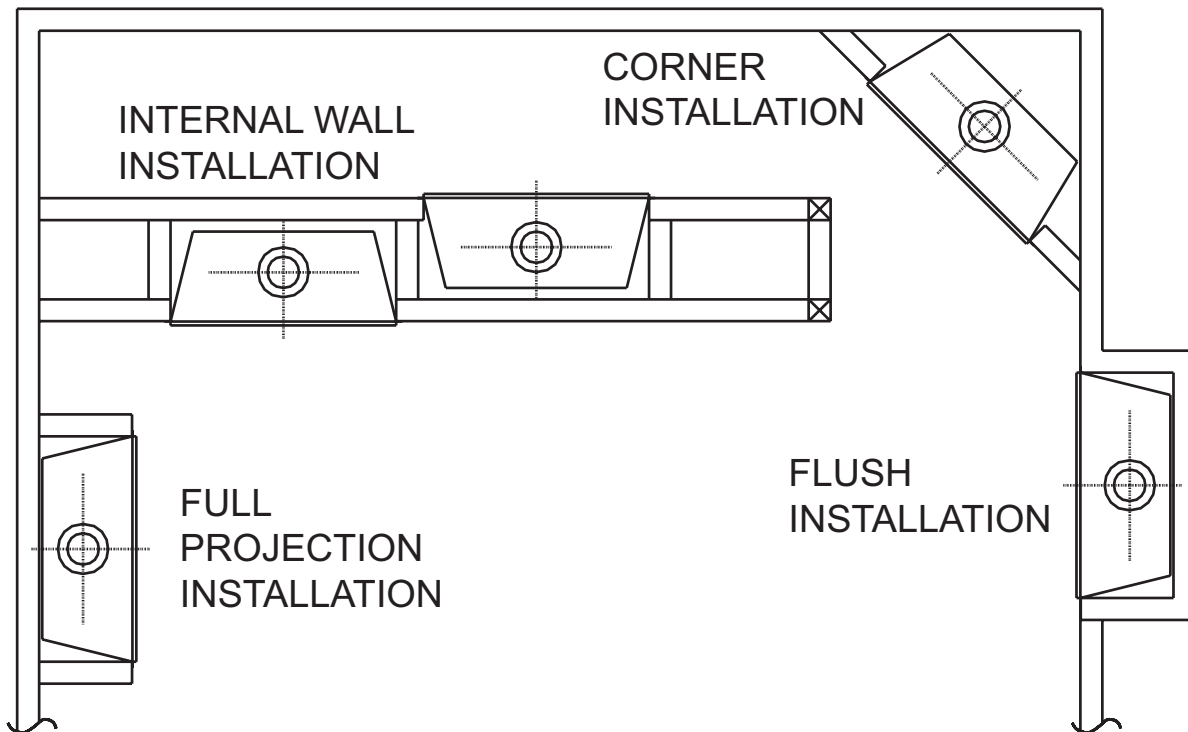

Figure 2 - Possible Locations for Installing Fireplace
3. A location that avoids the cutting of joists or roof rafters will make installation easier. Figure 2 shows a plan view of a few common locations.